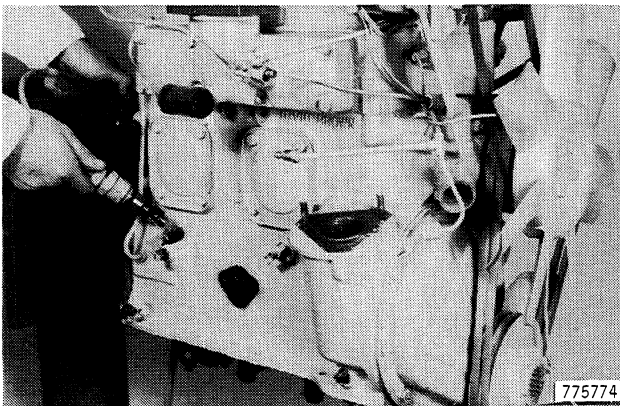

Figure 28
3. Pull the tachometer drive and cable from the engine block, Figure 28.